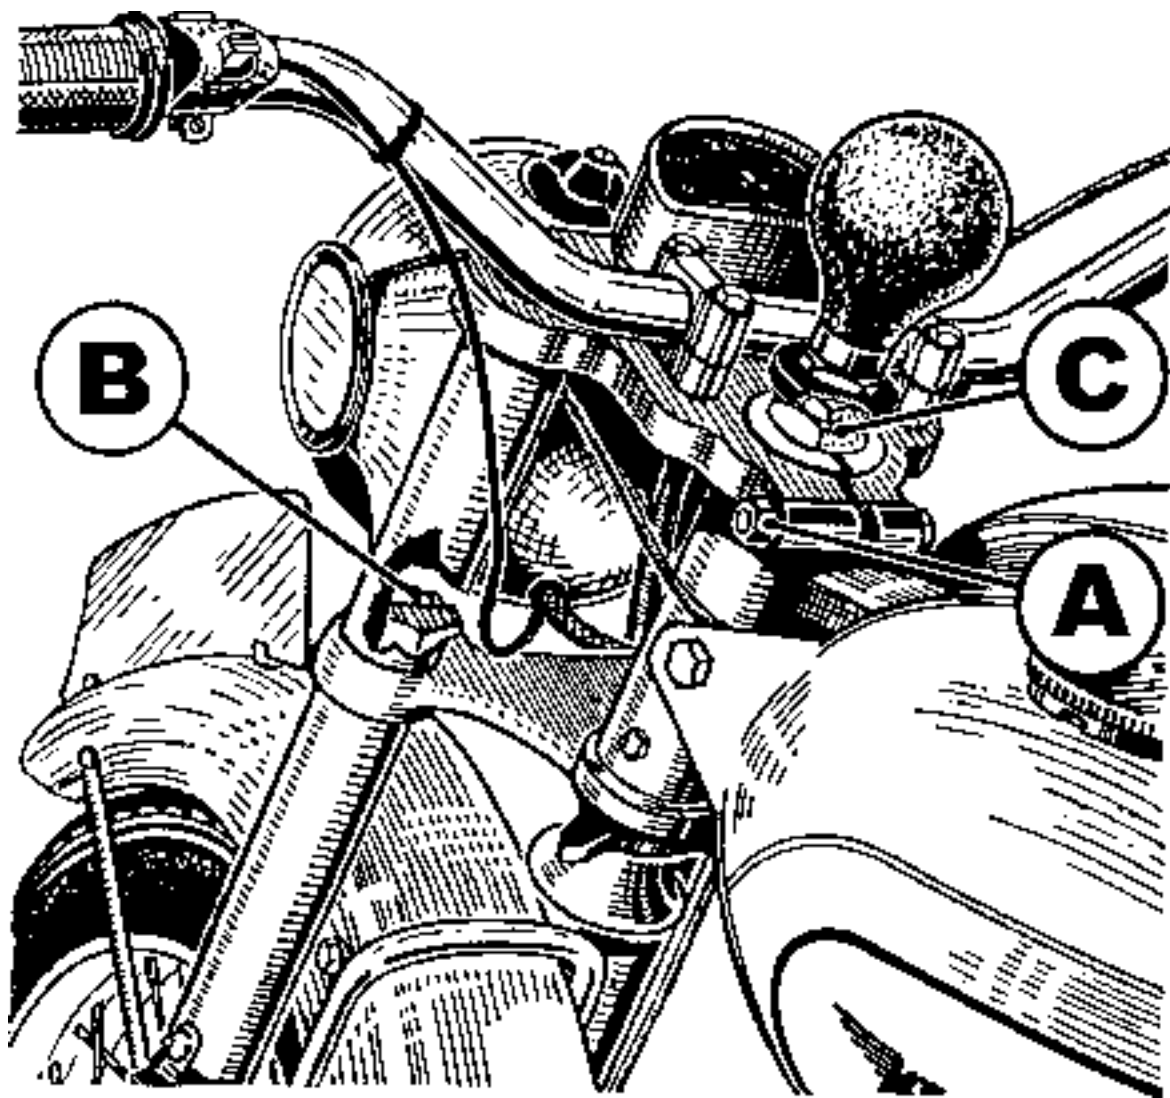

FIG. 10 *Front fork and steering head.*
It is first necessary to raise the front wheel clear of the ground—this can best be done by lifting the machine on its stand and putting some small weight on the rear of the saddle or carrier causing the rear wheel to rest on the ground. Test for play by grasping the fork legs and attempting to push them backwards and forwards. If play can be detected the head bearing requires adjustment. Slacken the clip bolt (A) Fig. 10. On machines fitted with a bulb horn unscrew this item and lift off the steering head dust cover. On other machines the dust cover is held in position by a central screw.